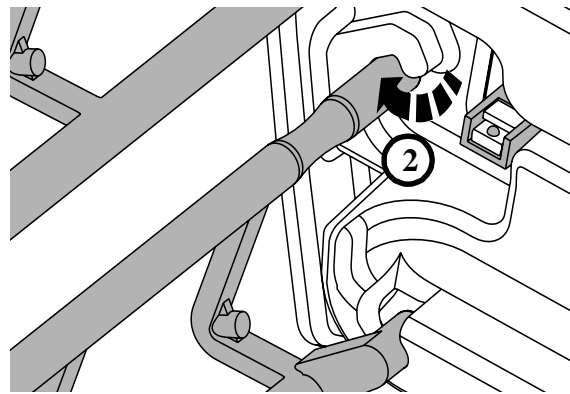
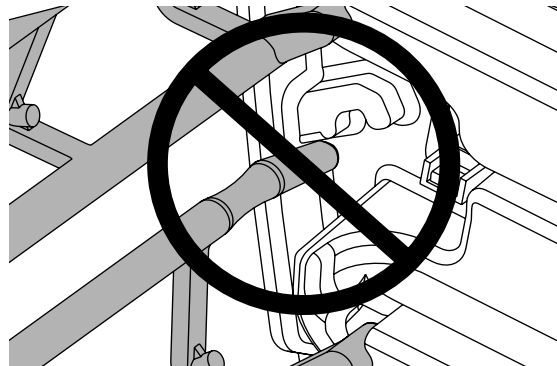

Figure 7
Figure 8
- ◆ Rotate the top leg into place as shown in figure 7. Make certain not to over rotate the funnel as shown in figure 8.